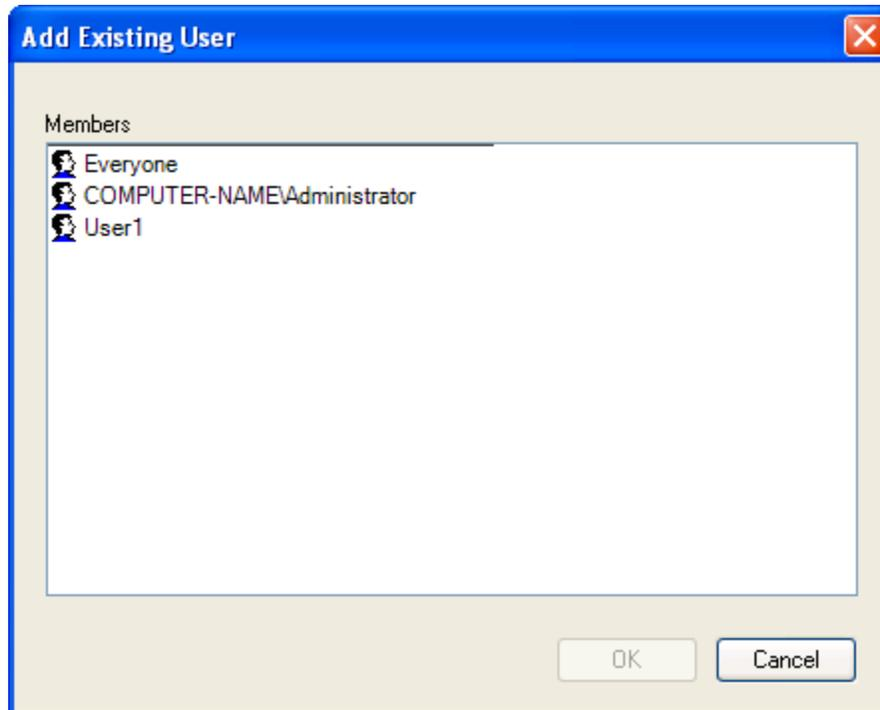

Figure 61 - Add Existing User Window
1. Click on the **Add** button. The **Add Existing User** window (Figure 61) appears.